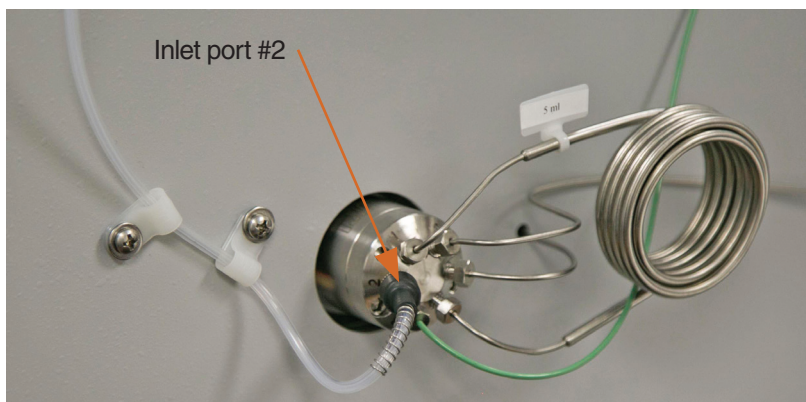

Figure 2-25 Probe fitting connected to inlet port #2
1. Connect the sample probe fitting to the inlet port #2 of the injection valve on the ACCQPrep (Figure 2-25).
2. Secure the probe tubing to the side of the ACCQPrep by removing the housing screw, fitting the tubing bracket to the screw, and replacing the screw (Figure 2-25).